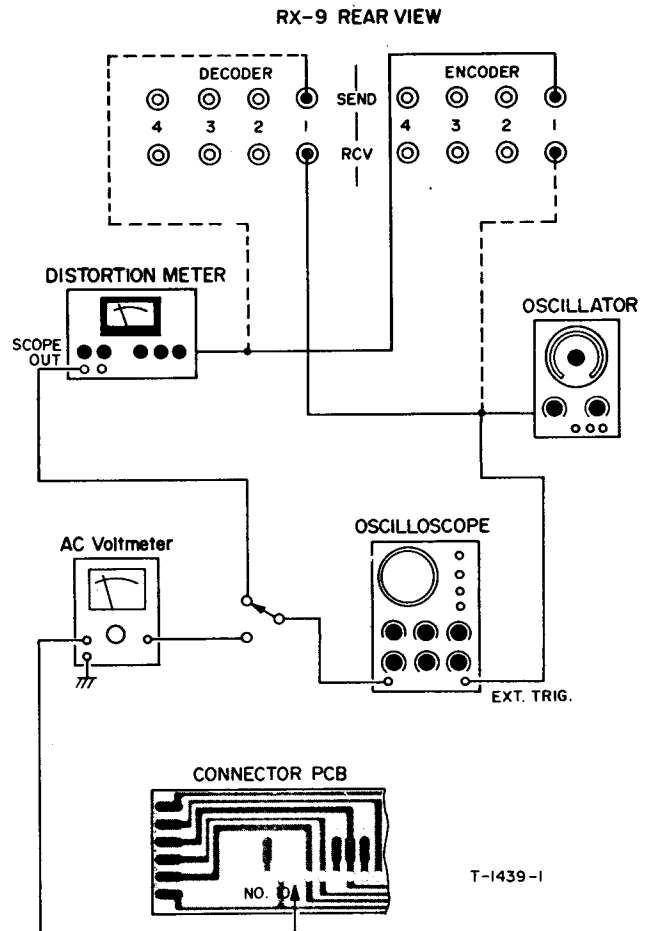

Fig. 4
4. Connect oscilloscope through AC Voltmeter to the terminal No. 10 as shown in Fig. 4.